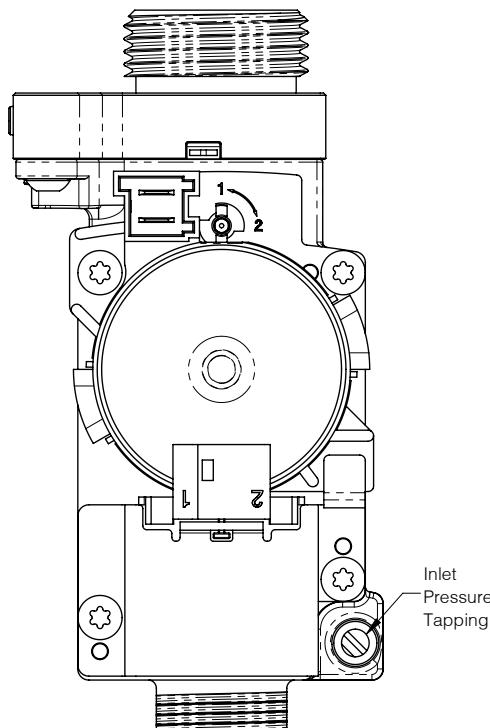

Figure 14-8: Gas Valve Inlet Pressure Tap
9. Check inlet gas pressure (Figure 14-8). Verify inlet gas pressure is between upper and lower limits shown on rating label with all gas appliances on and off. Be sure to close this pressure tapping when gas pressure check is complete.